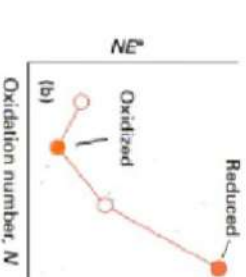

Fig. 4
④ The oxidising agent in the couple is with more positive slope (more positive E^\ominus) is liable to undergo reduction and The reducing agent of the couple with less positive slope (the most negative E^\ominus) is liable to undergo oxidation. (Fig. 4)